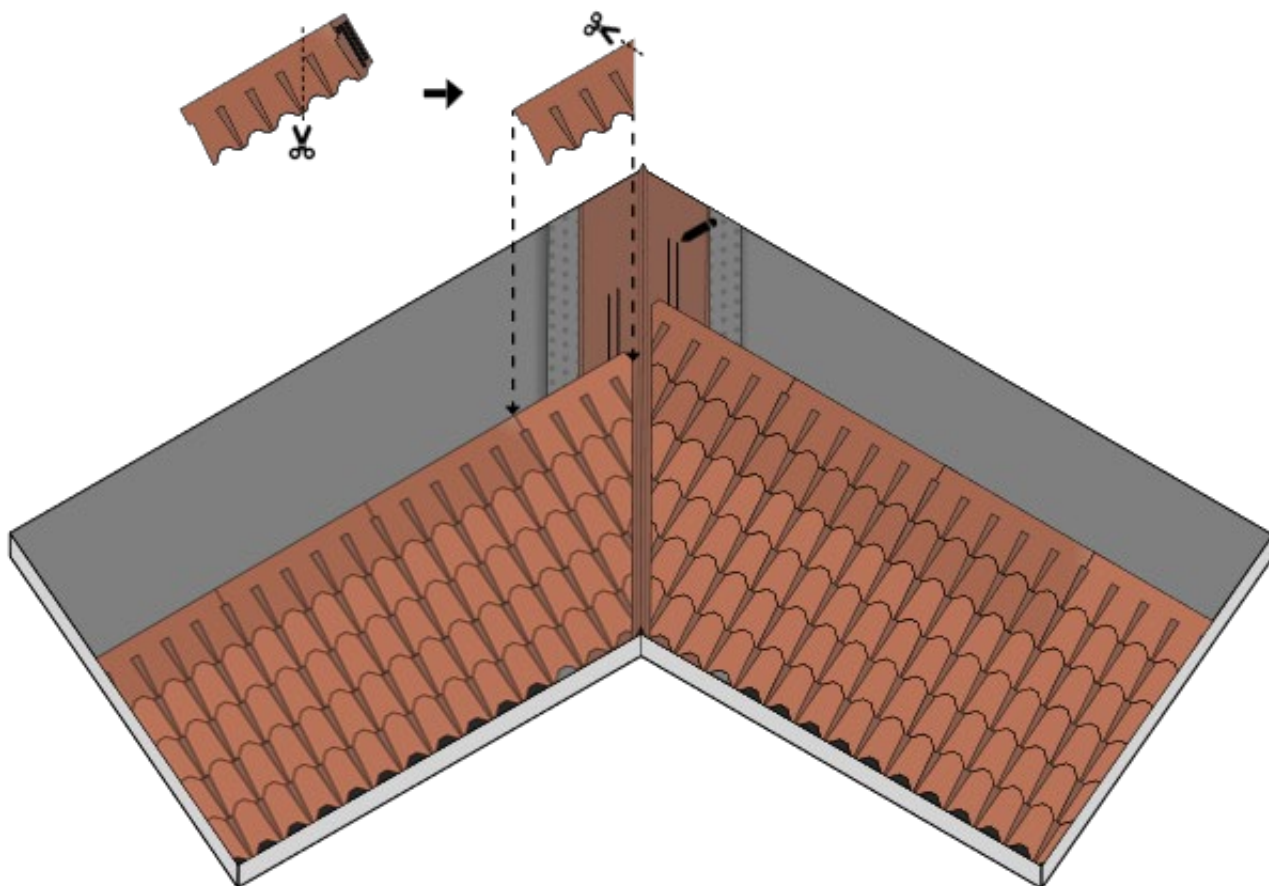

Fig. 28 - Shingles installation by torch at the valley - option 2
- The second option for the valleys is similar but involves using a metal valley instead of the second layer of granulated bituminous membrane, with a profile like Fig. 17. In this case, the starting line and the Master Coppo shingles will be cut approximately 3 cm from the valley line. The shingles will be fixed with the torch flame over the Safety EPP, always heating the membrane and not the shingle element, and with two strips of Bitustick over the metal valley - Fig. 28. It is also advisable to cut the upper edge of the shingle across the valley line to direct the descending water along the valley axis - Fig. 28.